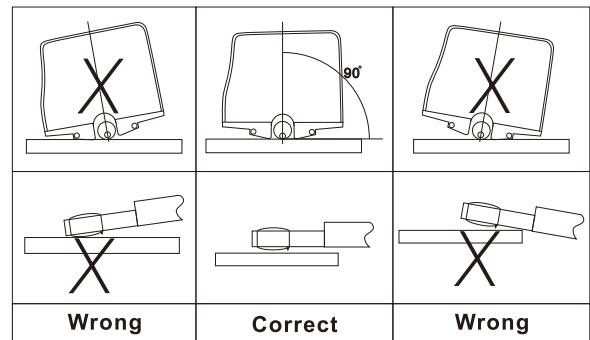
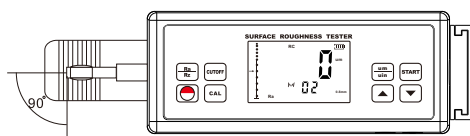

Fig.4-1
Fig.4-2
- H.** Refer to Figure 4-1 and Figure 4-2 to place the instrument correctly, stably and reliably on the surface to be measured.
- I.** Refer to Figure 4-2, the sliding trail of the sensor must be vertical to the direction of process line of the measured surface.